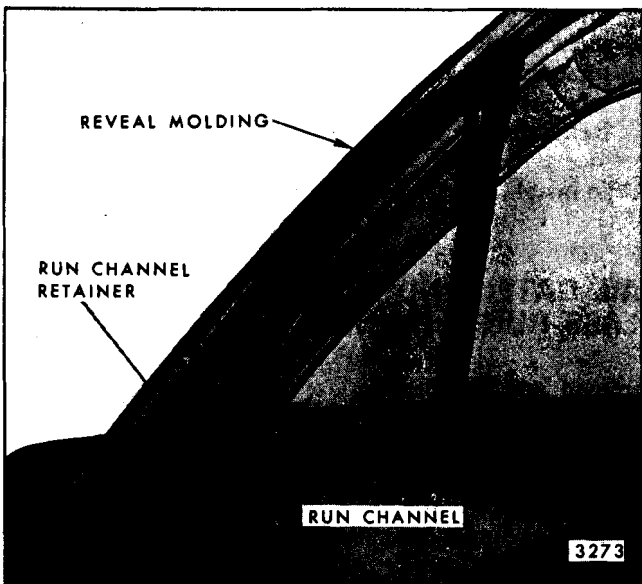

Fig. 9-33-Tail Gate Upper Glass Run Channel Retention
2. Once run channel has been removed, the retainer attaching screws are exposed (See Fig. 9-33). The retainer can be adjusted by loosening attaching screws, shifting retainer to desired position and tightening screws. If retainer is removed, seal retainer with medium bodied sealer prior to installation.